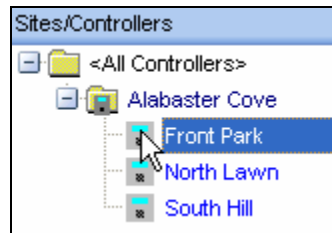

Figure 34.0.3
2. Next click on a controller from your controller list to highlight it (Figure 34.0.3).